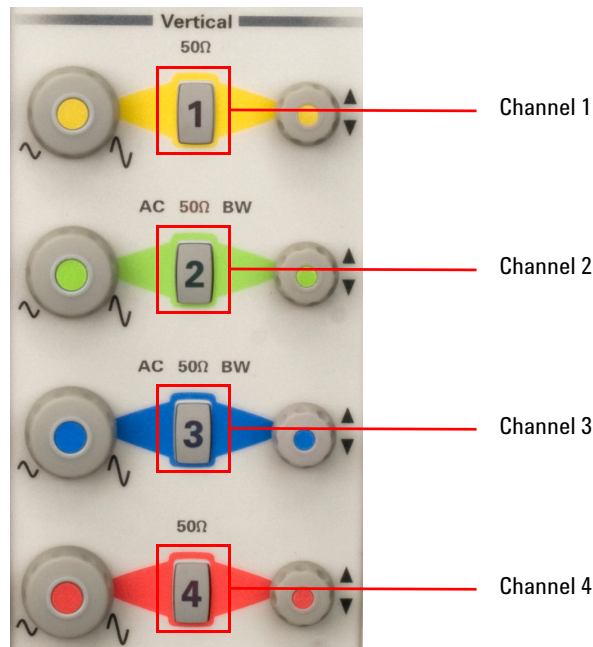

Figure 2-3 Channel number buttons in the Vertical section
- 1 Press the desired channel number button in the Vertical section to turn on the channel as shown in Figure 2-3.